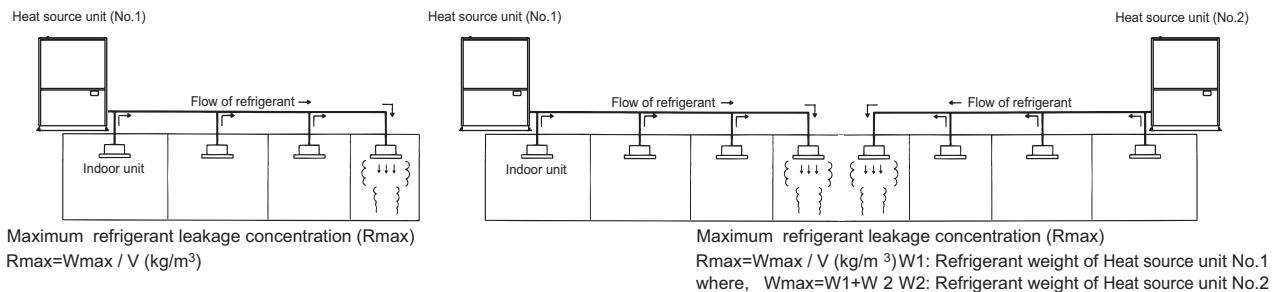

Fig. 5-1 The maximum refrigerant leakage concentration
The maximum refrigerant leakage concentration (Rmax) is defined as the result of the possible maximum refrigerant weight (Wmax) leaked into a room divided by its room capacity (V). It is referable to Fig. 5-1. The refrigerant of Heat source unit here includes its original charge and additional charge at the site.